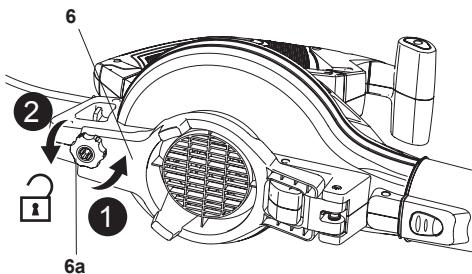

Fig. 4
2. Open the fan cover (6) by turning the knob (6a).
- Unscrew the locking knob (6a) counter-clockwise, then remove the impeller cover (6) (Fig. 4, steps 1, 2) and hold it in place.